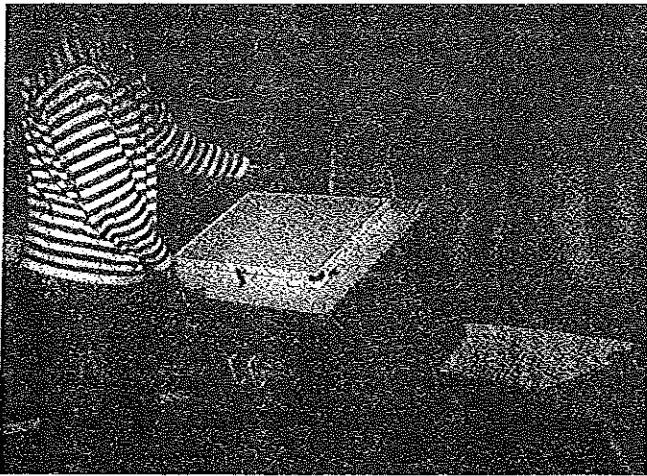

FIGURE 24
29. Grasp the rack of the upper galley assembly. Lift up and rotate 180 degrees toward the outside of the trailer. See Figure 24.